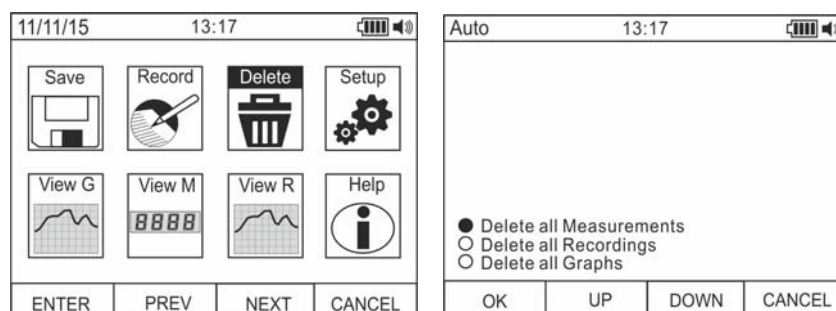

Fig. 12: Deleting the internal memory
14. Use the **F2** or **F3** key to select symbol “Delete” and press the **F1** key (see Fig. 12 – left side).